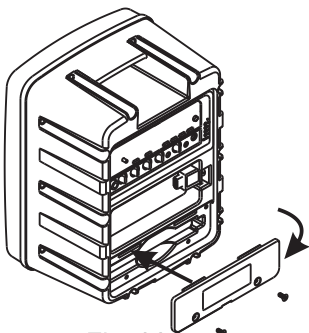

Fig. 36
(D) Insert the replacement battery pack. Ascertain the connecting pins are connected firmly before inserting, Fig. 36.